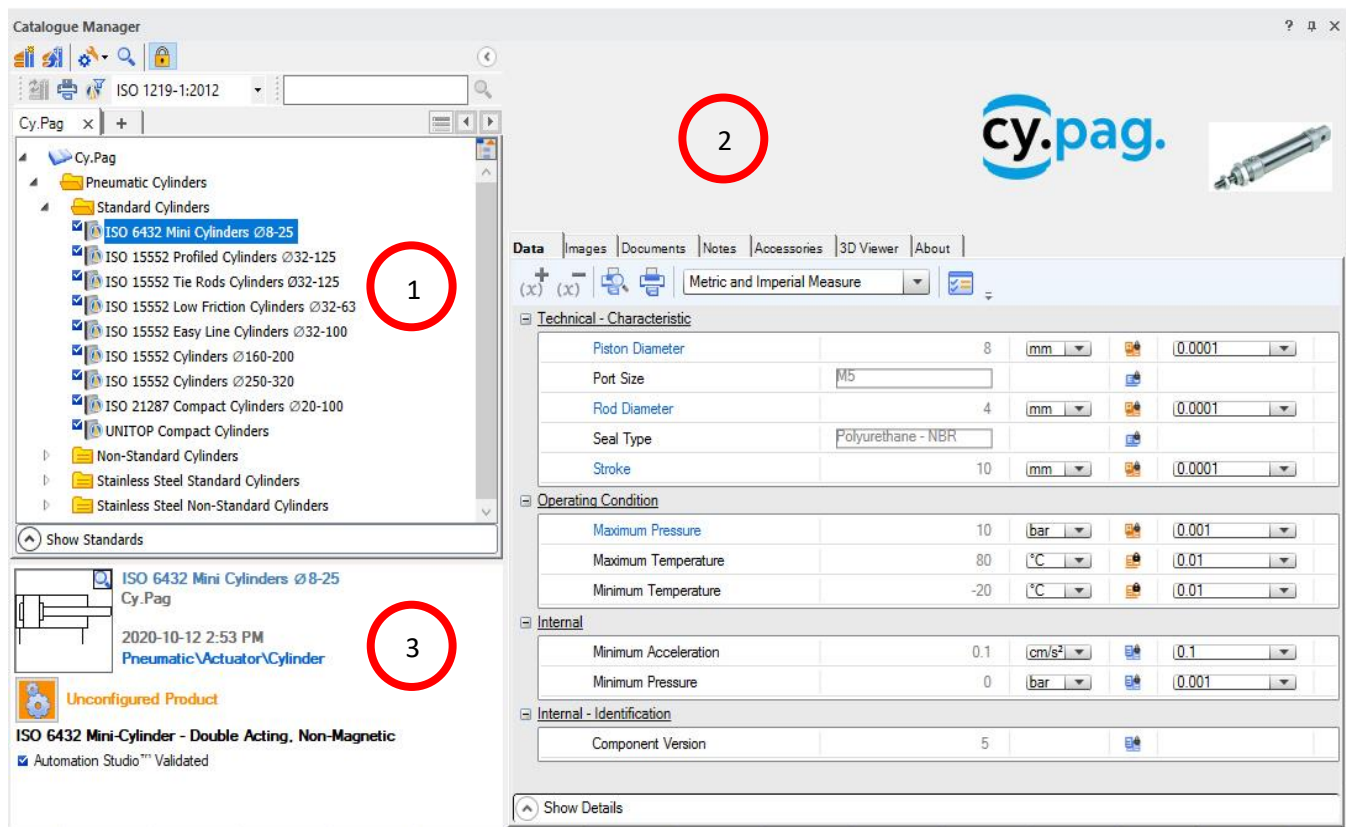
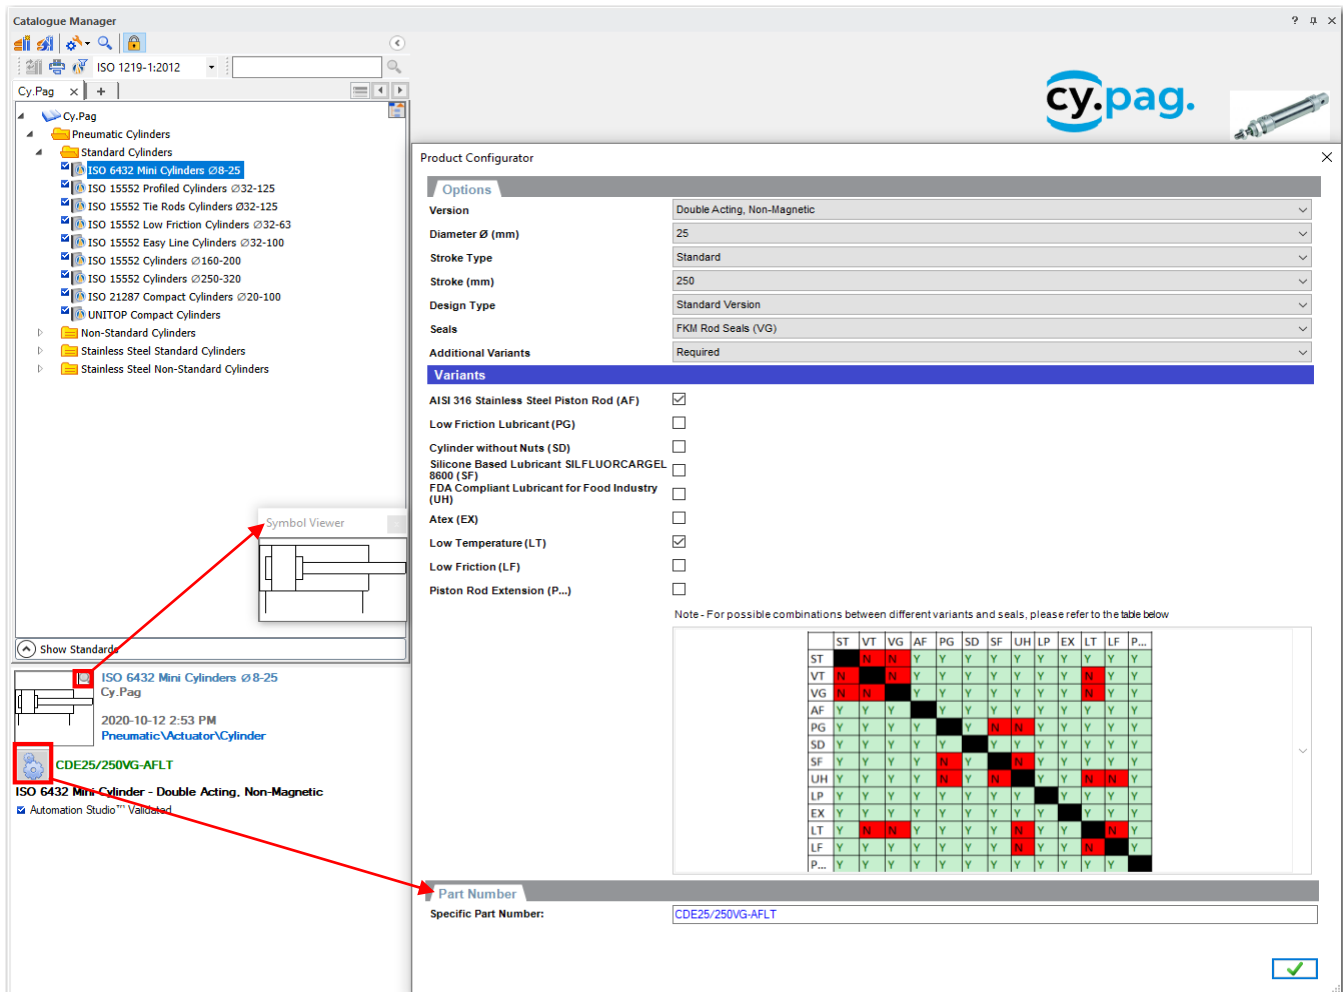

Figure 1: Catalogue Manager Window Displaying Technical Data and Symbol for ISO 6432 Mini Cylinder
Figure 2: A Configured Part Number of ISO 6432 Mini Cylinder Ø8 – 25 using the Catalogue Manager’s Product Configurator
The **Catalogue Manager** of **Automation Studio™** consists of three sections as shown in Figure 1. The first section (1) contains a catalogue tree similar to the manufacturer’s website where a user can easily find a component as per the requirements. In the catalogue tree, components have been categorised as per their types and function. The second section (2) consists of different tabs where the user can get information like the technical data, images of the selected component. The “Documents” tab of this section contains the application test file and the manufacturer’s technical specifications of the product. Section (3) shows a “Set Specific Part Number” function button which opens the “Product Configurator” window as shown in Figure 2.
Using the “Product Configurator”, the user can easily select specific product characteristics and configure the manufacturer-specific part number of the component. The options to choose the desired Piston Diameter, Stroke, Design Type, Seals and Multiple Additional Variants (as required) are available. The product information, technical data and symbol get updated with the selected options. The “Symbol Viewer” button (refer to Figure 2) allows the user to magnify the view of the configured component’s symbol. All these Catalogue Manager features were designed to enable the user to easily choose and configure pre-modelled components. Users may now simply drag and drop the desired component into the editor area of Automation Studio™ for circuit integration. The component models can be directly used for the design of a pneumatic circuit, real-time simulation or monitoring in Automation Studio™.